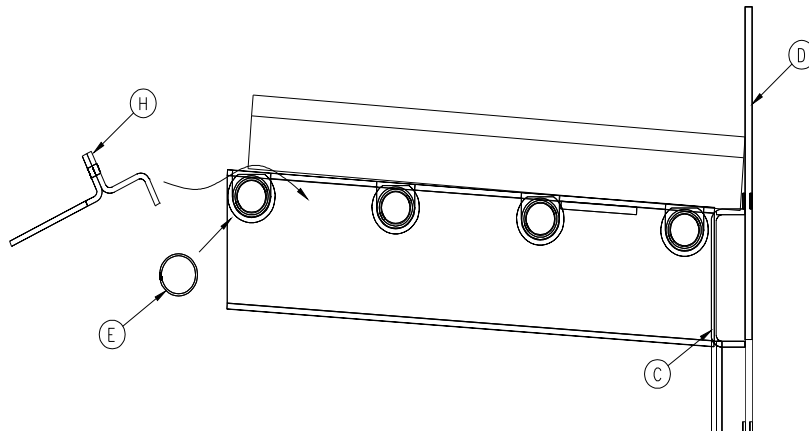

Figure 3b
2. Put them on the horizontal air duct (C) (see figure 3b). Afterwards, push them towards the bottom and sides so that they rest on the back of the firebox (D) and on the side air ducts. Install the baffle support/extension (H) ensuring that it fits between the front risers and hold it in place. Install the front secondary air tube as show in figure 3c ensuring air holes face forward. Install the cotter pins as in fig 3.4. Installing the front secondary air tube (E) will stabilize baffle assembly during the next step.